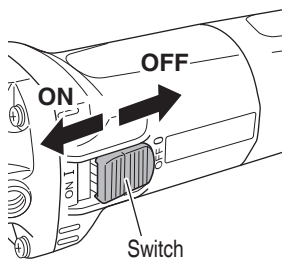

Fig. 3
- Turn the grinder "on". (Fig. 3)